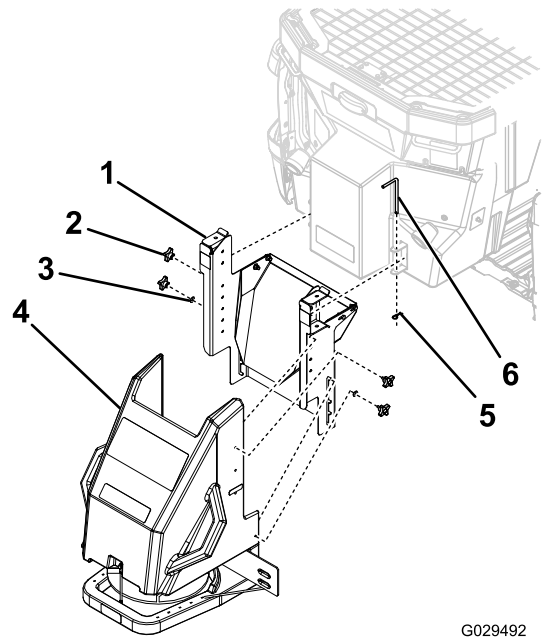

Figure 11
1. Attach the adjustment assembly to the spinner assembly using 2 flat washers (5/16 inch) and 4 thumb screws as shown in Figure 11.
2. Remove and retain the latch and cotter pins from the spinner assembly (Figure 11).
3. Attach the spinner assembly to the spreader and secure it with the previously removed latch and cotter pins (Figure 11).